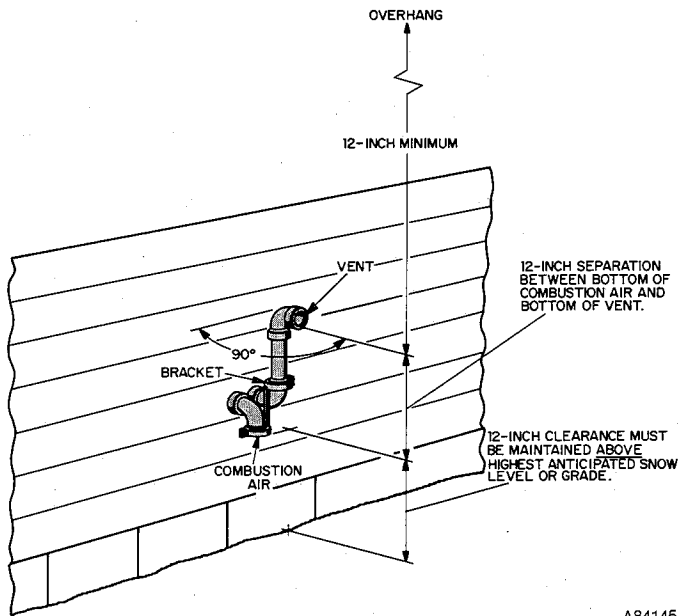
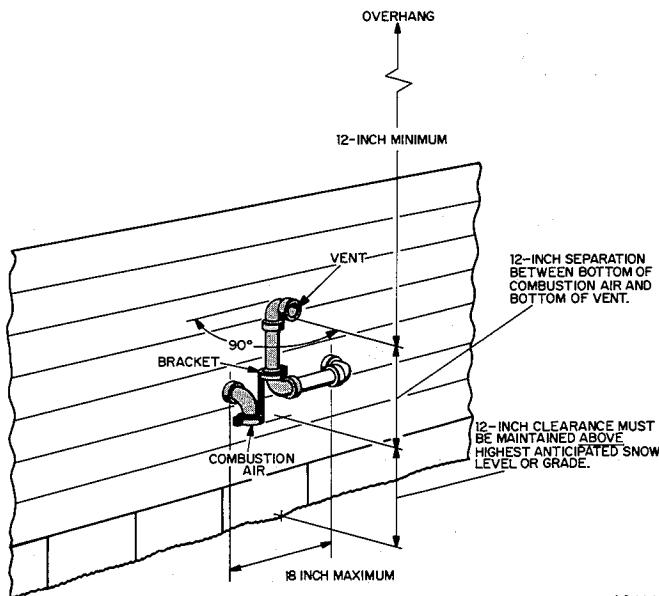

Fig. 4—Sidewall Termination Above Snow Level or Grade (Preferred)
Fig. 5—Sidewall Termination Above Snow Level or Grade (Option)
2. Sidewall terminal installation when combustion-air and vent pipes exit through sidewall 12 inches or more above highest anticipated snow level or grade. See Figs. 4 and 5.
NOTE: The arrangement in Fig. 4 is preferred. The arrangement in Fig. 5 is an option for the vent pipe only.
- c. Install elbows as shown in Figs. 4 or 5 using same procedures for cementing as used for system piping.
- d. Install bracket as shown in Fig. 4 or 5.
- e. Position vent pipe assembly so as to maintain 12-inch separation between vent pipe outlet and combustion-air inlet. Cement vent pipe in elbow as shown in Fig. 4 or 5.
- f. For applications using vent pipe option as shown in Fig. 5, rotate vent elbow 90 degrees from position shown in Fig. 4.